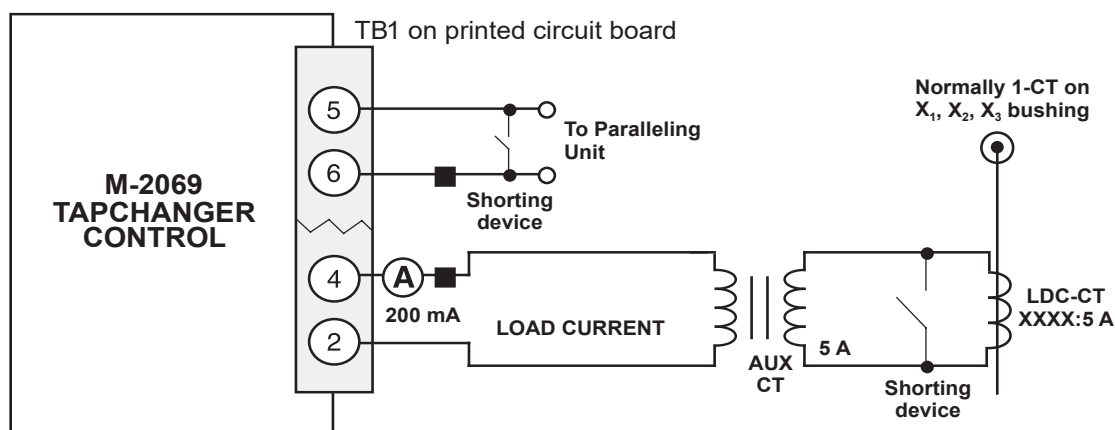

Figure 12 Setup for Current Checkout Procedure
5. As shown in Figure 12, temporarily place a shorting device across the LDC-CT secondary to short the line drop compensator circuit, and place another shorting device across TB1-5 and TB1-6 to short the circulating current paralleling input, for the load current check.